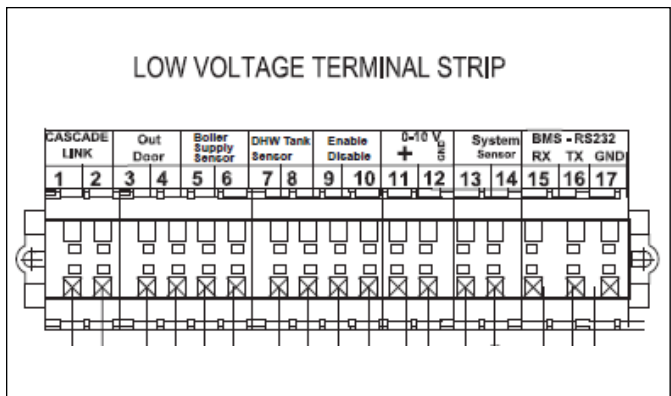

Figure 4
1. Identify which boiler in the Cascade group of boilers will be the Managing boiler. All pertinent sensors and controls will be wired to the managing boilers control panels (Figure 4).